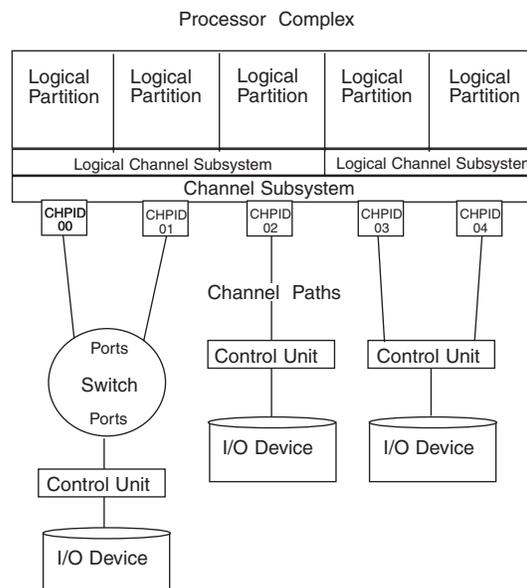

Figure 2-1. Configuration Example
The components of an I/O configuration are shown in a sample configuration in Figure 2-1:
**Note:** You can only use multiple logical channel subsystems, as shown in Figure 2-1, on z990 processors.